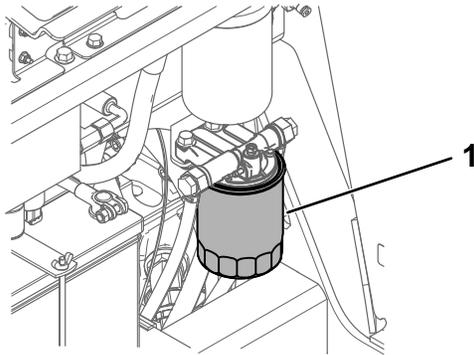

Figure 60
5. Place a clean container under the fuel filter canister (Figure 60).